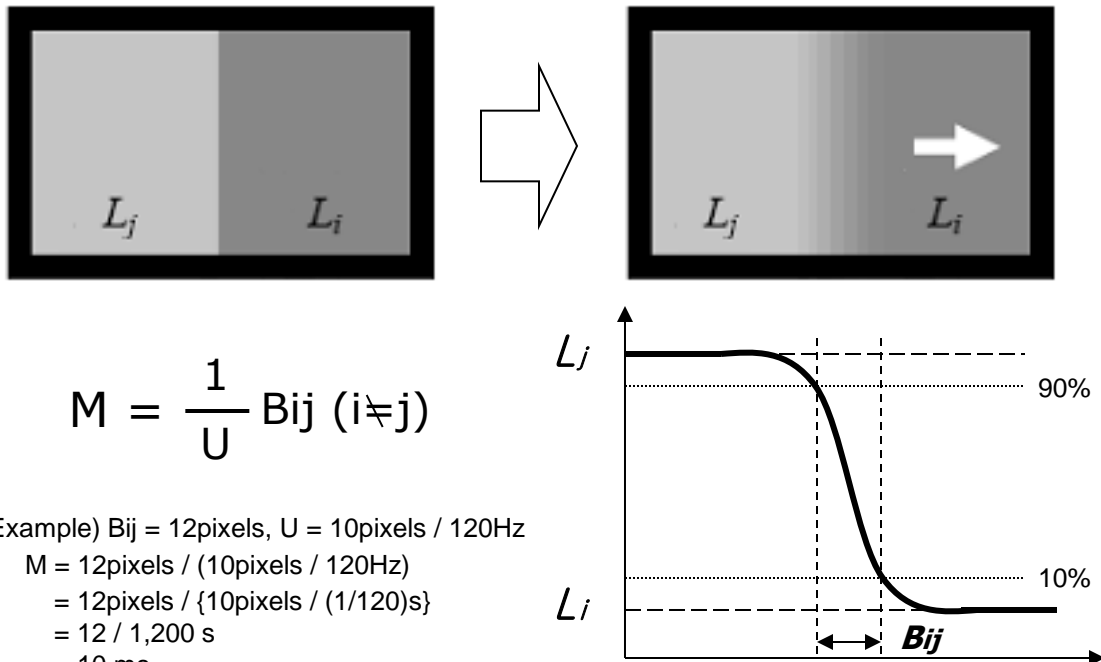

FIG. 4 MPRT
4. MPRT is defined as the 10% to 90% blur-edge width B_{ij} (pixels) and scroll speed U (pixels/frame) at the moving picture. For more information, see FIG. 4.